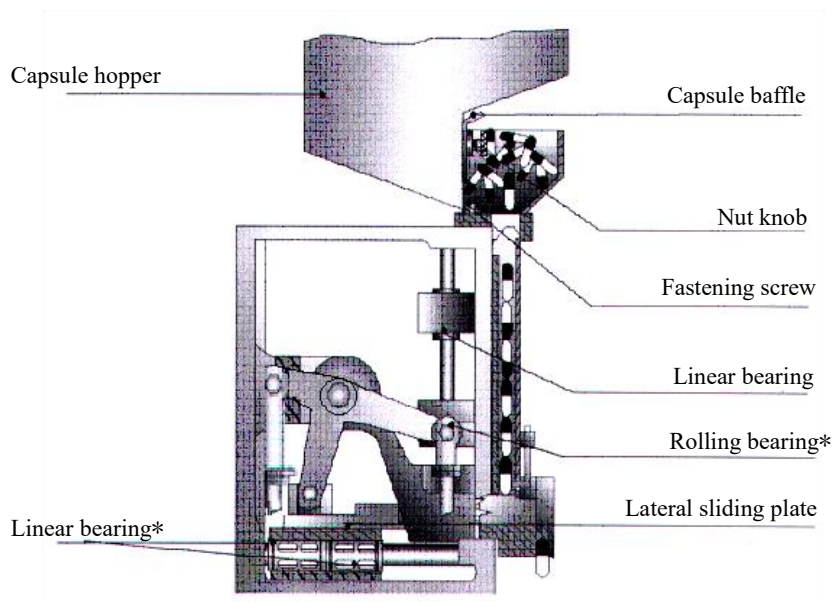

Fig. 12 Feeding Unit
5.2.1 Adjustment of the exit of capsule hopper (refer to Fig. 12)